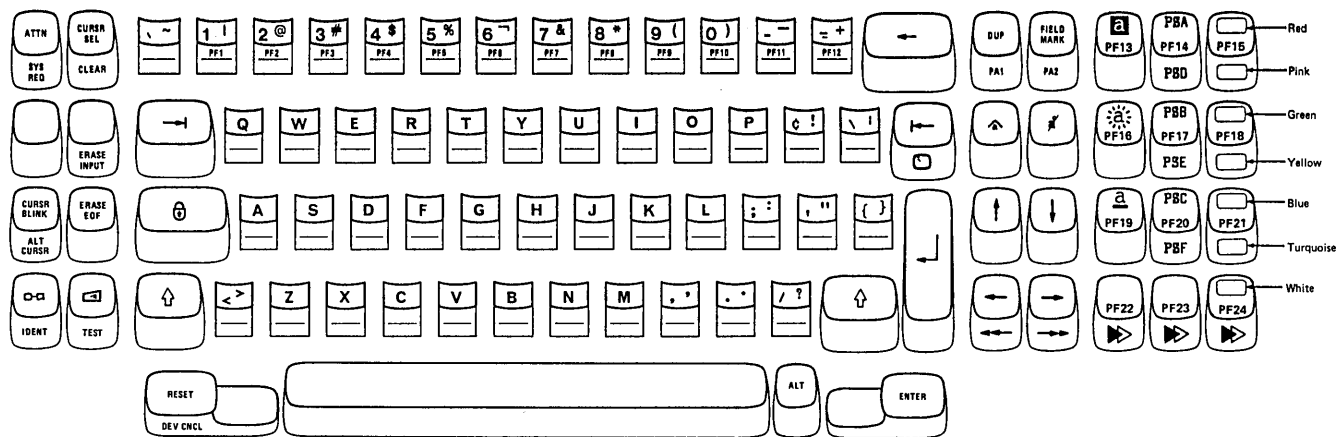

Figure 3-7. Attribute Select Overlay Keyboard
- The Attribute Select Typewriter/APL keyboard (Figure 3-7)